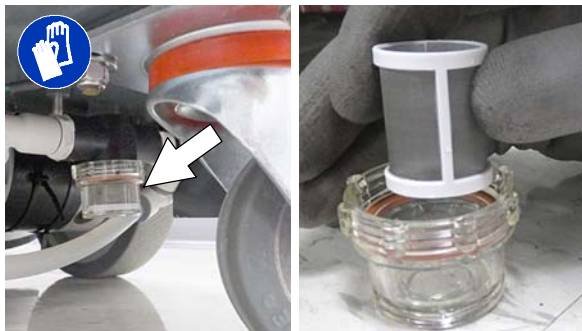

FIG. 98
1. Remove the solution tank filter and clean screen (Figure 98). Turn the filter bowl counter-clockwise to remove. Make sure to drain solution tank before removing filter.